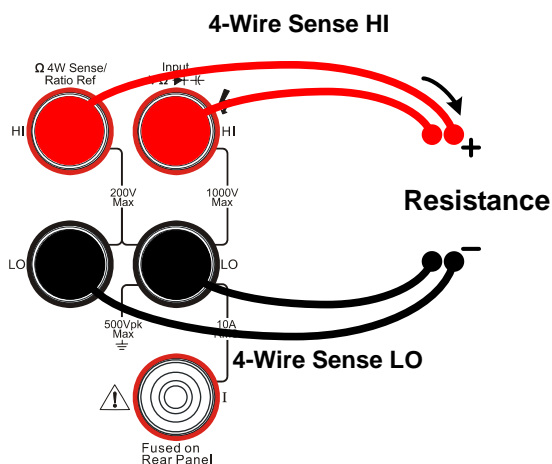

Figure 1-23
1. Connect test leads as Figure 1-23 shown. Red test leads connect the HI Terminal, Black test leads connect the LO Terminal.